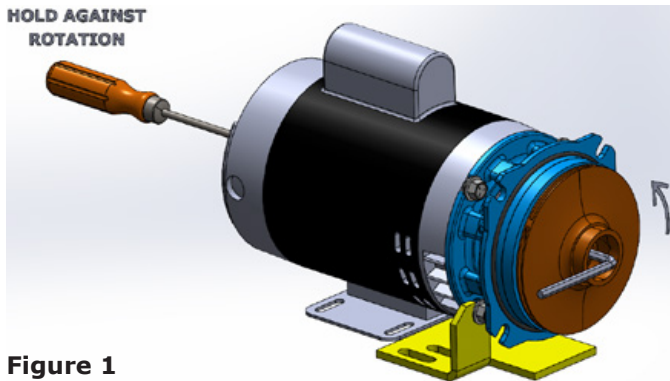

Figure 1
7. Remove the motor shaft end cap at the back of motor (opposite the pump end). Insert a screwdriver in the slot of the motor shaft end. While holding the screwdriver against rotation, unscrew the cap screw using a 3/16-inch Allen wrench or Allen socket. (Figure 1)